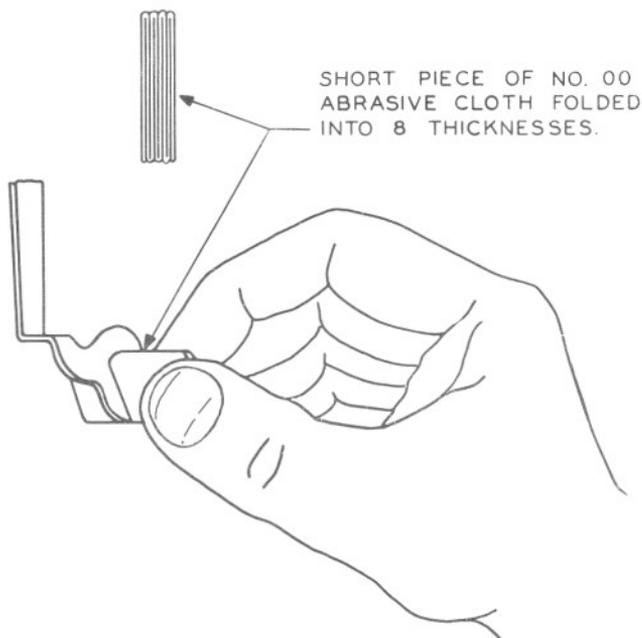

FIG. 8 — POLISHING OF FORK SLOT
1. Clean and lubricate the fork and the vane pin. If bearing surfaces of fork are so rough that they cannot readily be made smooth, replace relay; otherwise, smooth rough spots using a small piece of No. 00 abrasive or finer cloth folded as shown in Fig. 8. Clean off with a